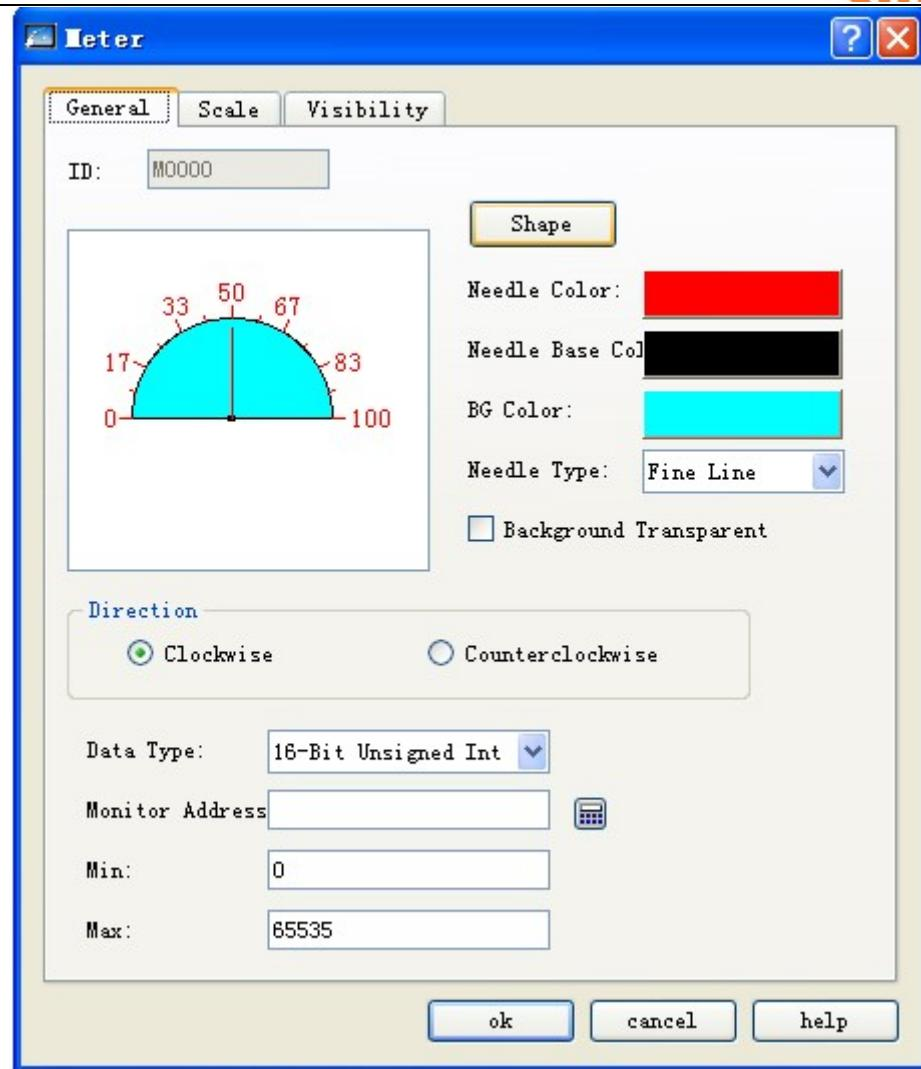

Figure 4-67: Meter dialog
1. Click Meter control icon in the tool bar, and then a dialog as shown in Figure 4-67 will appear.